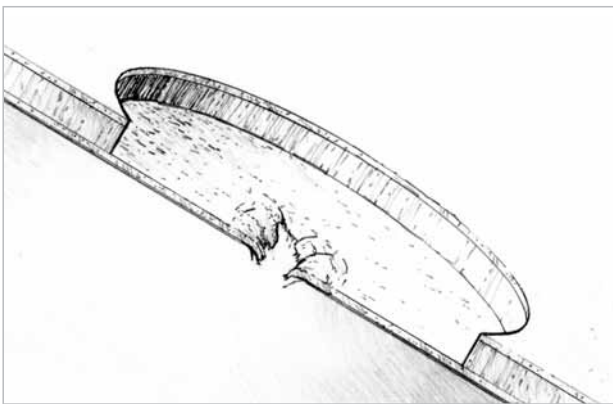

Figure 5-15 Cut back the outer skin and core several inches from the hole through the inner skin.
2. Cut back the outer skin and core several inches from the edge of the hole through the inner skin to provide an area wide enough to grind a 12-to-1 bevel around the edge of the inner skin (*Figure 5-15*). Use a router with a straight fluted bit set to the depth of the outer skin and core only, to avoid cutting the inner skin. Cut the core and outer skin back 12 times the thickness of the inner skin plus about 1" (25mm) to leave enough room to grind the inner skin bevel. For example,